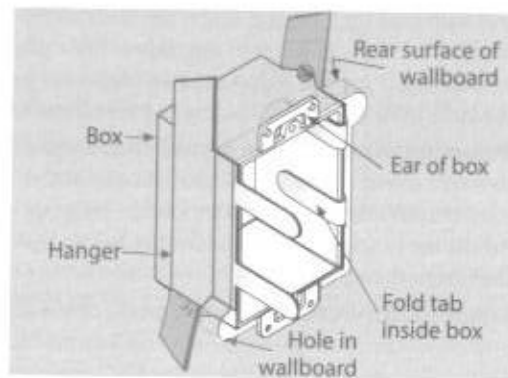

Fig. 13-8 A pair of these straps supports a switch box in wallboard.
- Use an ordinary box plus a pair of special straps shown in Fig. 13-8. Insert one strap on each side of the wall opening and push the box into the opening, taking care not to lose one of the straps inside the wall. Then bend the short ends of each strap down into the inside of the box. Be sure they are bent sharply over the edge of the box and lie tightly against the inside walls of the box so they cannot touch the terminals of a switch or receptacle installed in the box, which would lead to grounds or short circuits.